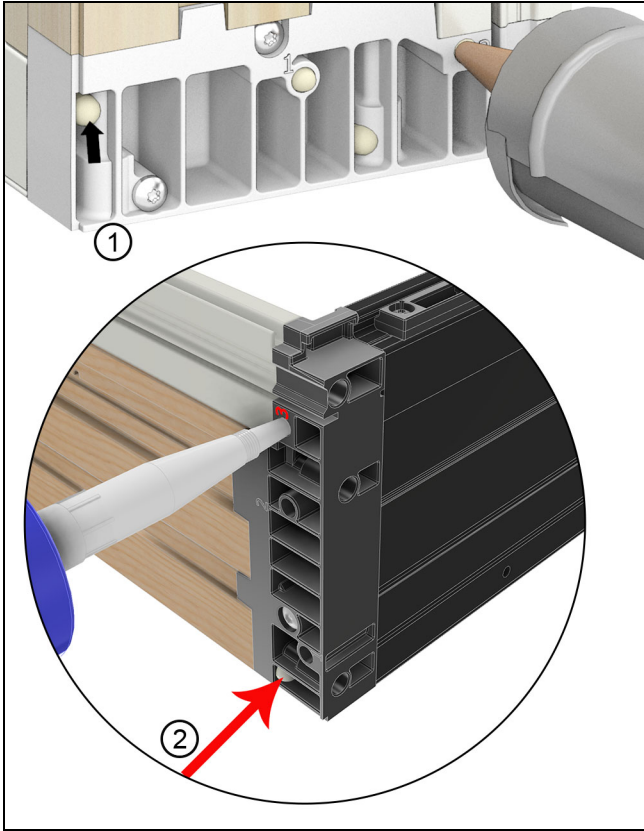

Figure 8 4 9/16"
1. For performance sills, with 4-9/16" jambs, locate the injection hole on the side of the sill key labeled "2". Inject into the key until you see squeeze out in the inspection hole shown below. For accessibility sills, use the injection hole labeled #3. See Figure 8.